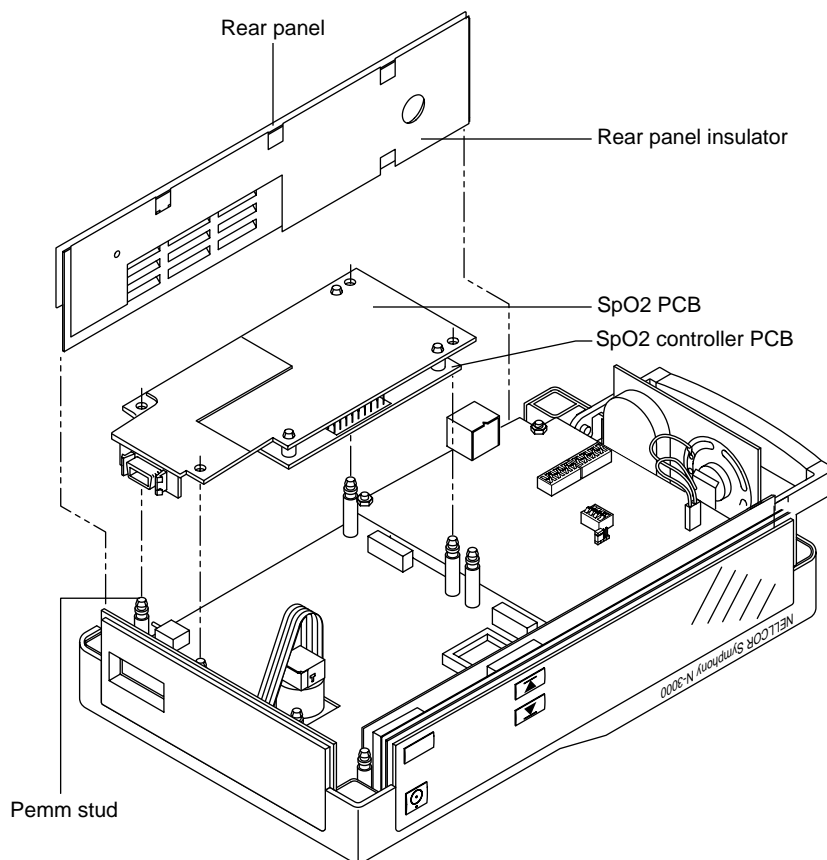

Figure 6-7: Rear Panel and SpO2 Module Disassembly
2. Remove the rear panel, rear-panel insulator, and NEW PATIENT/NEONATAL button by lifting up and rotating out of the chassis channel guides as illustrated in Figure 6-7.